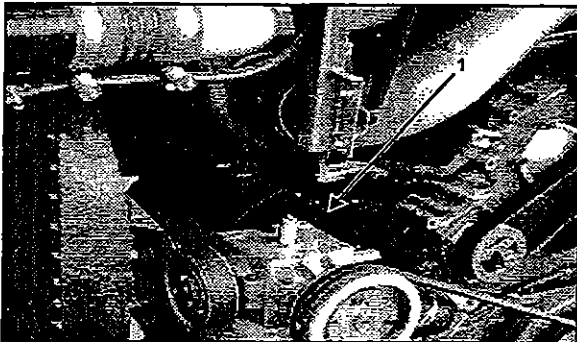

Figure 16
10. Disconnect the connector for electric fan clutch close to the water pump (1, Fig. 16).